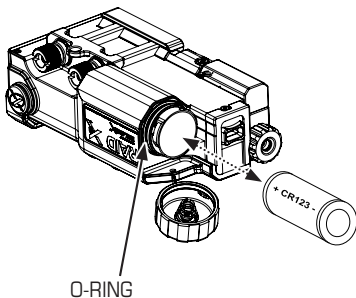

Figure 4.2-1 Replacing the Battery in the RAID X_e
The **RAID Xe** operates on one (1) CR123 battery. When the battery is not correctly installed, the positive (“+”) post of the battery cannot make contact. Install as illustrated in Figure 4.2-1. Refer to Table 4.2-1 for total estimated runtime after installing a fresh CR123 battery.